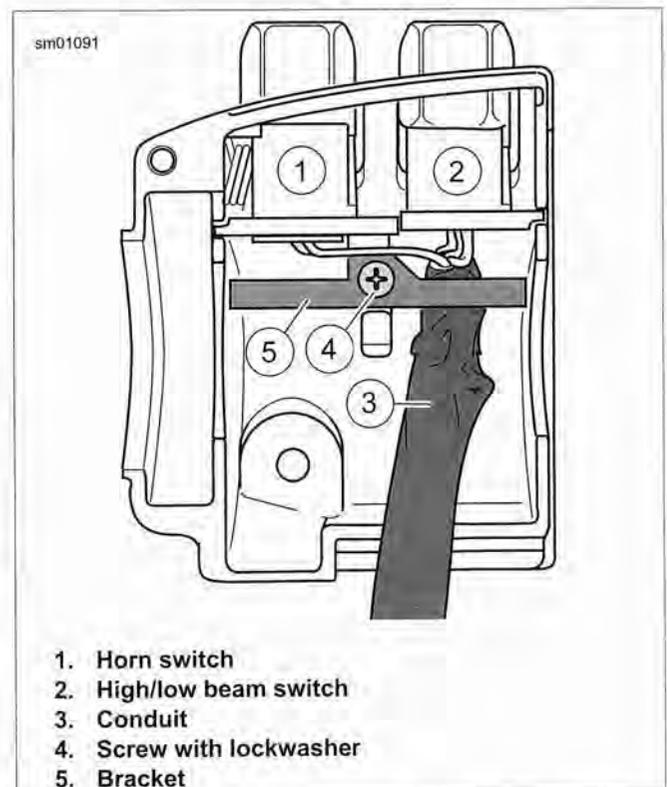
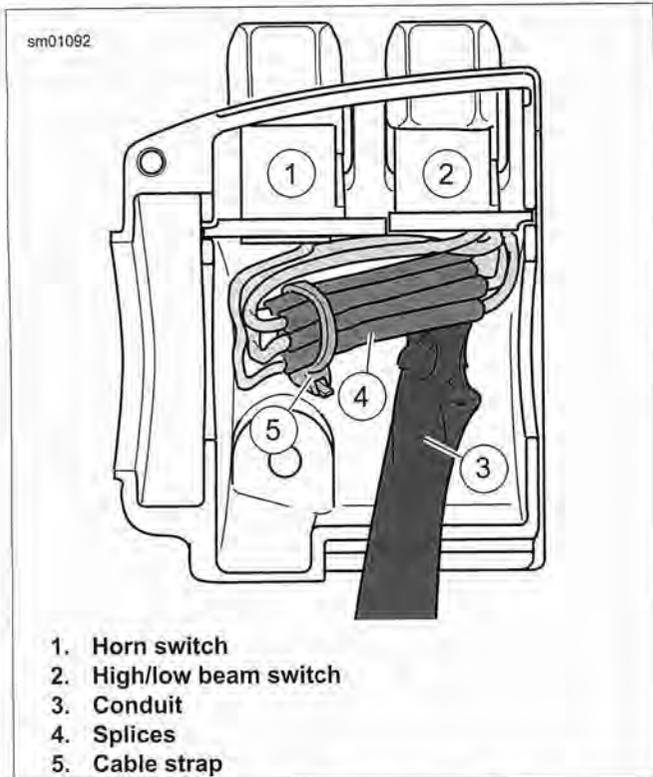

Figure 6-149. Upper Housing Without Splices
Figure 6-150. Upper Housing With Splices
1. See Figure 6-149. From inside the switch housing, remove the screw with lockwasher (4) to release the bracket (5). Remove bracket and switch assembly from the housing.
2. Move cable conduit (3) from beneath wing of bracket. Cut wires 0.25 in (6.4 mm) from old switches (1, 2). Discard old switch and bracket assembly.
3. Slide conduit forward over cut ends of switch wires and cut off 0.5 in (12.7 mm) of conduit (3) material. Push conduit back to access switch wires.
4. Separate the **new** horn switch (1) and high/low beam switch (2) wires into two bundles.
6. Loop switch wires so that spliced lengths are positioned as shown in Figure 6-150. Route wires downstream of splices beneath wing on high/low beam switch side of bracket as shown in Figure 6-149.
7. See Figure 6-150. Install a **new** 7.0 in (177.8 mm) cable strap (5) beneath wing on horn switch side (1) of bracket and capture wire splices (4).
9. See Figure 6-149. Install screw and lockwasher (4) to secure bracket (5) inside housing. Verify that wing on high/low switch (2) side of bracket captures edge of conduit (3) as shown.